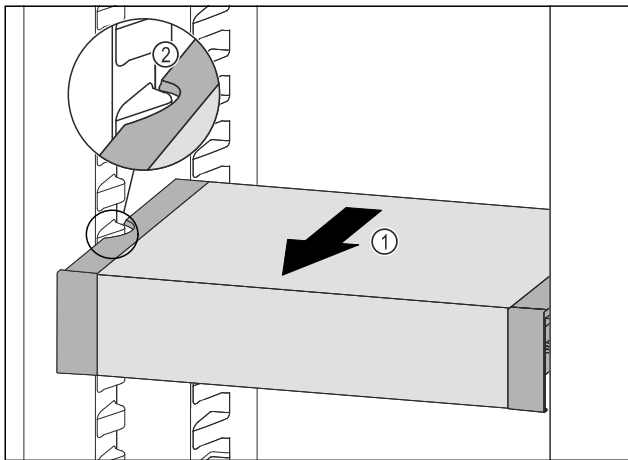

Fig. 160
- Pull VarioSafe forwards Fig. 160 (1) until the recesses in the side of the VarioSafe are at the level of the support rib in the fridge section. Fig. 160 (2)